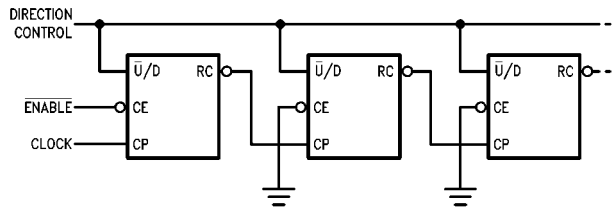
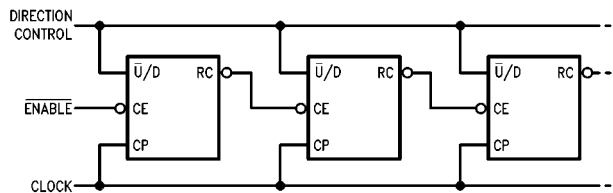

FIGURE 1. N-Stage Counter Using Ripple Clock
FIGURE 2. Synchronous N-Stage Counter Using Ripple Carry/Borrow
The TC signal is also used internally to enable the Ripple Clock (RC) output. The RC output is normally HIGH. When  $\overline{\text{CE}}$  is LOW and TC is HIGH, RC output will go LOW when the clock next goes LOW and will stay LOW until the clock goes HIGH again. This feature simplifies the design of multistage counters, as indicated in Figure 1 and Figure 2. In Figure 1, each RC output is used as the clock input for the next higher stage. This configuration is particularly advantageous when the clock source has a limited drive capability, since it drives only the first stage. To prevent counting in all stages it is only necessary to inhibit the first stage, since a HIGH signal on  $\overline{\text{CE}}$  inhibits the RC output pulse, as indicated in the RC Truth Table. A disadvantage of this configuration, in some applications, is the timing skew between state changes in the first and last stages. This represents the cumulative delay of the clock as it ripples through the preceding stages.
A method of causing state changes to occur simultaneously in all stages is shown in Figure 2. All clock inputs are driven in parallel and the RC outputs propagate the carry/borrow signals in ripple fashion. In this configuration the LOW state duration of the clock must be long enough to allow the negative-going edge of the carry/borrow signal to
The configuration shown in Figure 3 avoids ripple delays and their associated restrictions. The  $\overline{\text{CE}}$  input for a given stage is formed by combining the TC signals from all the preceding stages. Note that in order to inhibit counting an enable signal must be included in each carry gate. The simple inhibit scheme of Figure 1 and Figure 2 doesn't apply, because the TC output of a given stage is not affected by its own  $\overline{\text{CE}}$ .